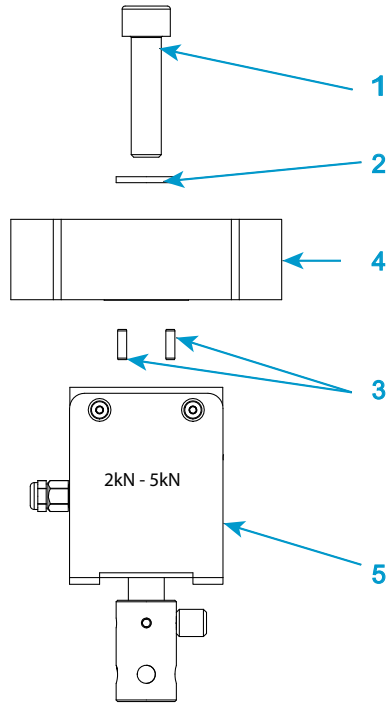

Figure 16. Install a 2519 series load cell - capacities 1 kN through 5 kN
Legend for Figure 16
1. Refer to Figure 16 on page 82 and its associated legend.